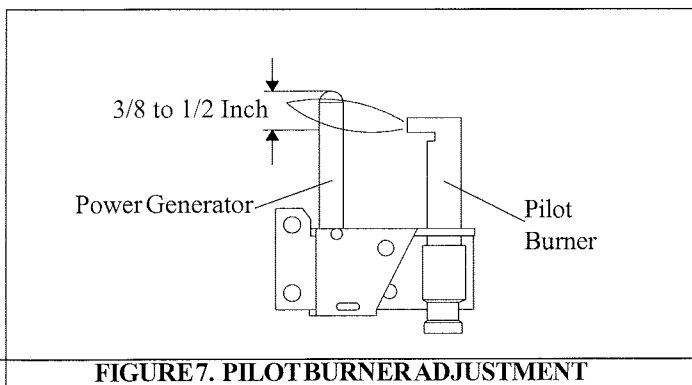

FIGURE 7. PILOT BURNER ADJUSTMENT
2. Adjust pilot screw to provide properly sized flame. *See Figure 7.*